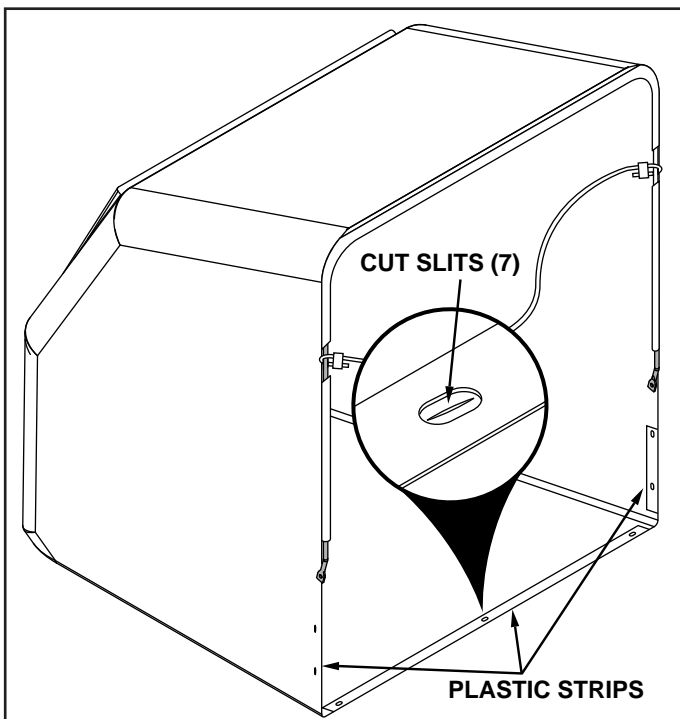

FIGURE 16
- Locate the plastic strips that are stitched to the bottom of the cart cover. Cut seven slits in the cover fabric that align with the holes in the plastic strips. See figure 16.